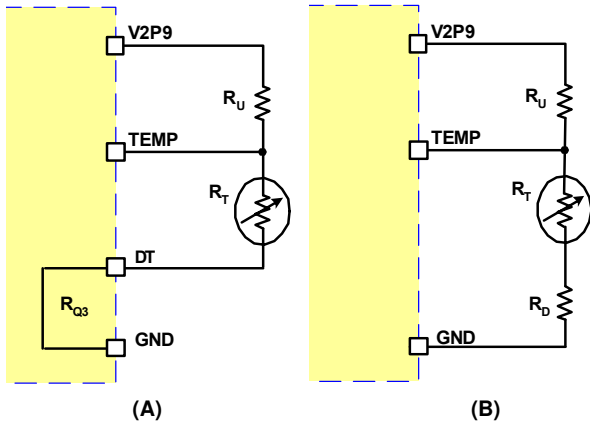

FIGURE 7. EQUIVALENT CIRCUITS FOR THE NTC DIVIDER (A) BEFORE CHARGING STARTS (B) DURING CHARGING.
create a hysteresis for each comparator respectively. The DT pin is shorted to GND via the internal Q3 MOSFET when the charger is not charging, resulting in the equivalent circuit shown in Figure 7 (A). The on-resistance of Q3 is typically 50Ω and is negligible compared to the external resistors. When the charger starts to charge, Q3 is turned off to set a higher temperature range determined by the external resistor R_D. The equivalent circuit is shown in Figure 7 (B). The DT pin allows the user to set up a higher shut down ambient temperature after the charger starts up.